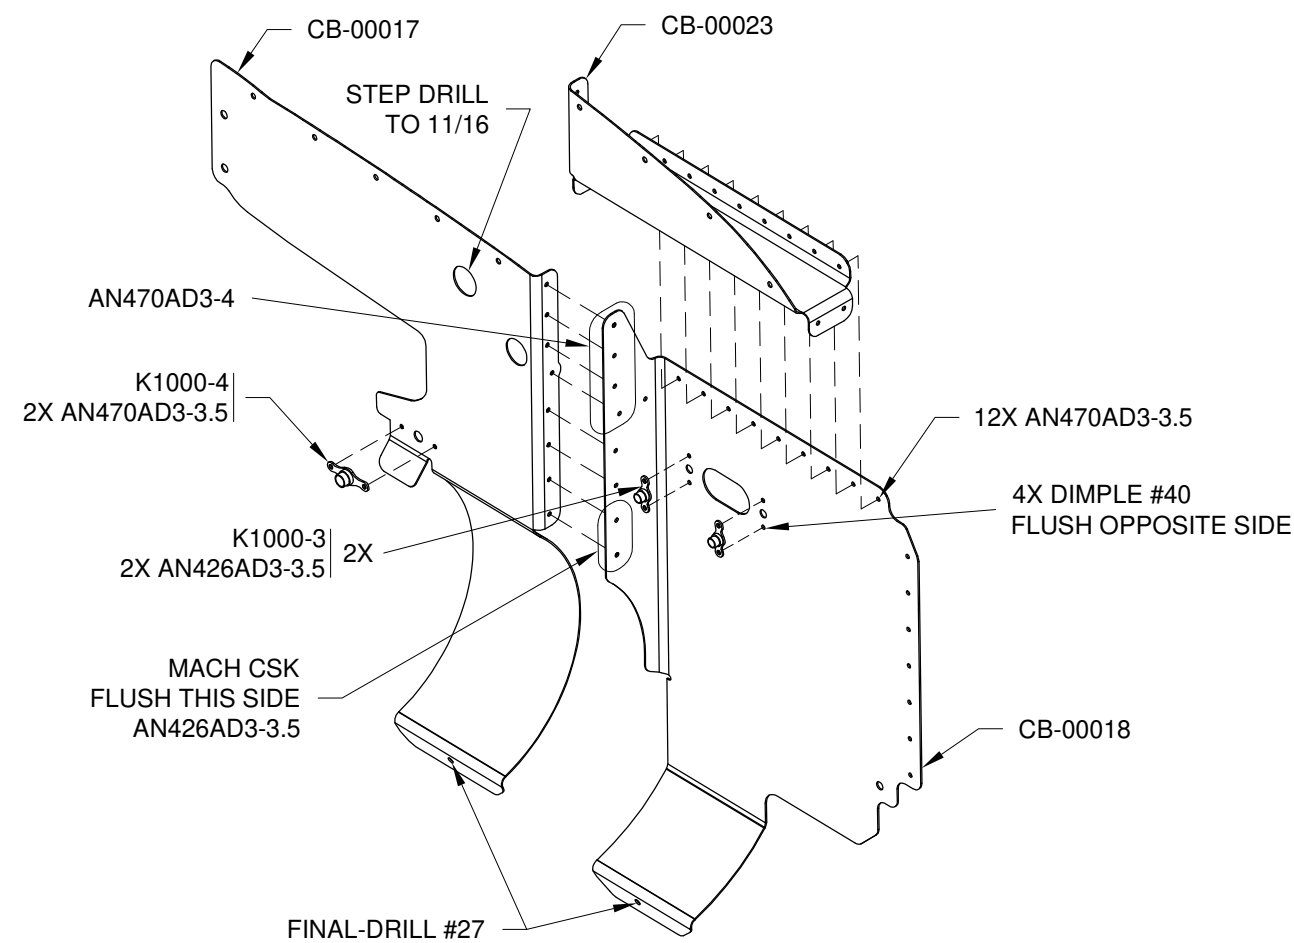

FIGURE 1: LEFT AFT BAFFLE
Step 7: Cleco, then rivet together, the left aft baffle, CB-00023 Baffle Back Plate Cap, and baffle back plate as shown in Figure 1.